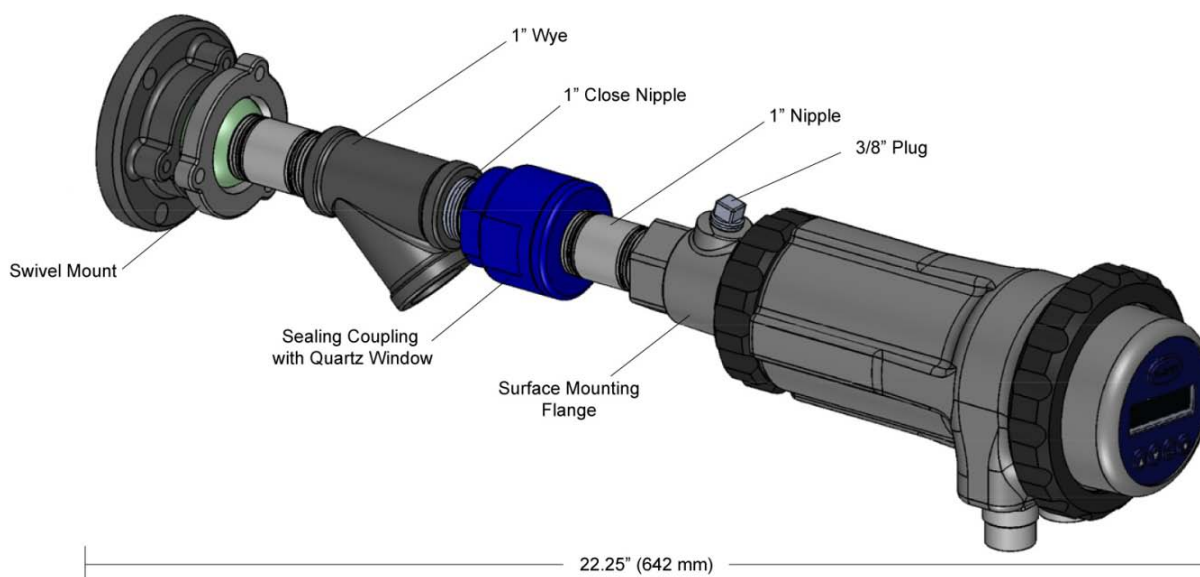
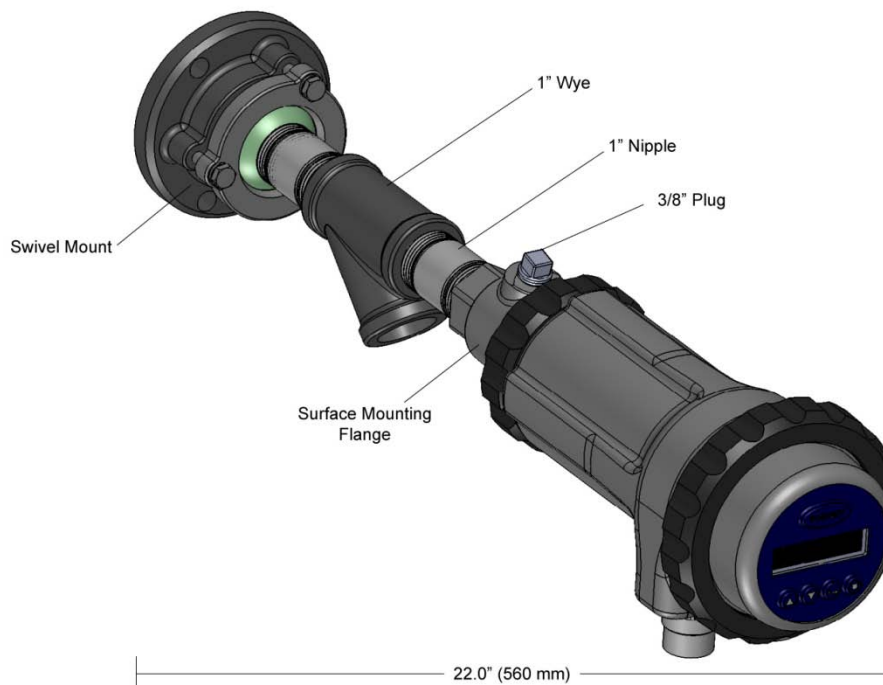

Figure 2-4 Swivel Mount, Wye, Sealing Coupling and Detector Assembly
Figure 2-5 Swivel Mount, Wye and Detector Assembly
- The preferred method for mounting surface mounted detectors requires the use of a swivel mount (NPT), shown in Figure 2-4, Figure 2-5 & Figure 2-6. Center the swivel mount over the two inch hole in the burner plate and secure using three hexed cap screws (not provided). Install the sight pipe on the swivel mount. If a swivel is not used, insert the end of the sight pipe into the hole, align the hole to the desired viewing angle and tack weld (welding must be adequate to temporarily support the weight of the installed detector). The sight pipe should be arranged to slant downward so that dirt and dust will not collect inside.
The detector swivel mount (NPT) (see Figure 2-7) is used to adjust the detector sighting angle after the detector has been installed. The swivel mount is shown in Figure 2-4, Figure 2-5, Figure 2-6 and Figure 2-7.
The sealing coupling (see Figure 2-4 and Figure 2-7) is used whenever a coupling or a seal is required for detector piping. The quartz window blocks furnace pressure, hot gases and soot from coming in contact with the detector and contaminating the lens. Available with 1" NPT or 1" BSP thread. When the sealing